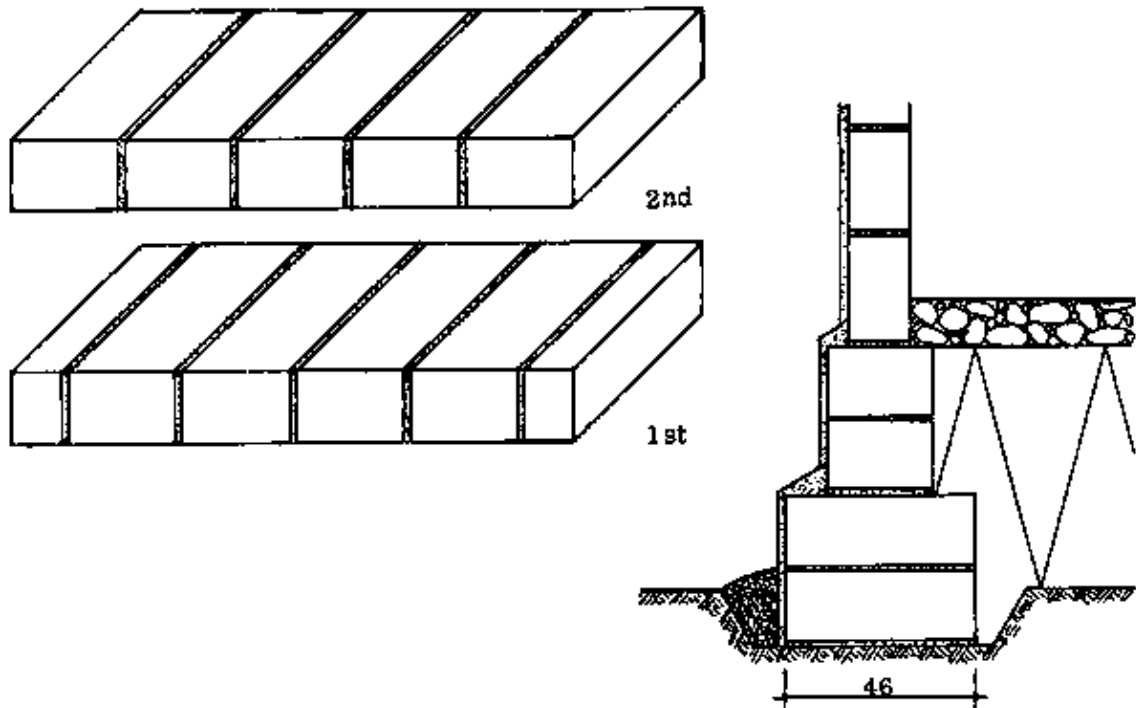

Fig. 2 SANDCRETE BLOCK FOUNDATION
– SANDCRETE BLOCK FOUNDATIONS: In an area where there is a lot of sand available but no broken stones, gravel or laterite rock, etc., one may be forced to use sandcrete blocks to build the foundations. The mix proportion for these blocks should be no less than 1:8, and the blocks themselves should be laid in header bond, as seen in Fig. 2.